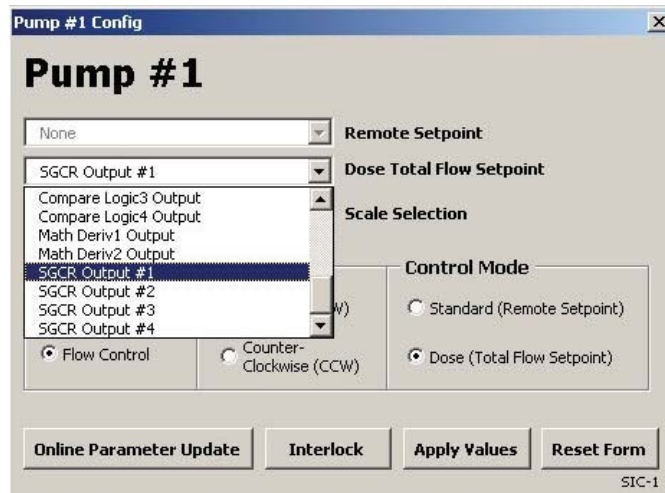

Figure 4.40. Setting total flow setpoint to Characterizing Curve used.
8. When the curve is configured, go back to the pump configuration and set the total flow setpoint to the Characterizing Curve used (Figure 4.40). Then click **Apply Values**.